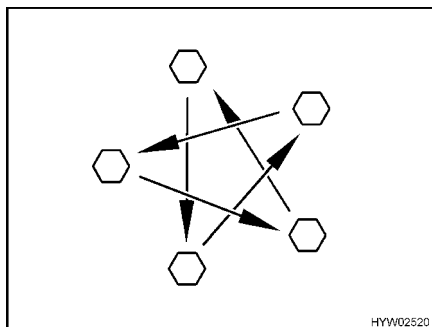

Fig. 128 Tighten the wheel nuts or wheel bolts cross-wise
- Check regularly that the wheel nuts or wheel bolts are firmly seated. Re-tighten the wheel nuts or wheel bolts of a changed wheel after 50 km (30 miles) (Fig. 128).
- When using new or newly painted wheel rims, re-tighten the wheel nuts or wheel bolts once again after approx. 1,000 to 5,000 km (600 miles to 3,000 miles) (Fig. 128).